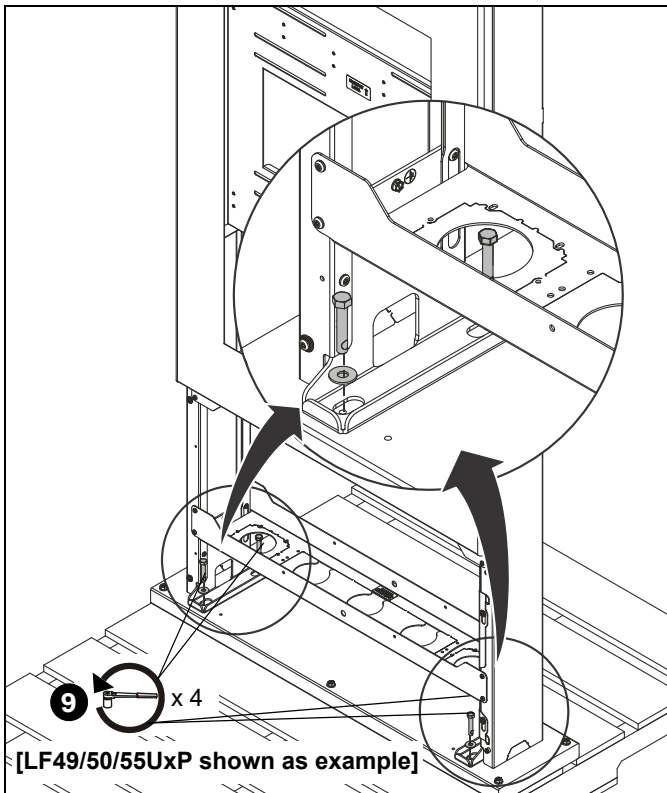

Figure 3
**WARNING:** TIPPING HAZARD! Close and lock door(s) before removing the hex head bolts from the pallet. (See Figure 3) **Keep door(s) closed and locked** until the kiosk is fully secured to the floor. Kiosk may tip if door(s) are open when kiosk is not securely fastened to pallet or to floor.
- Remove and discard the four hex head bolts and washers connecting the kiosk to the pallet, and lift kiosk off wood pallet. (See Figure 3)